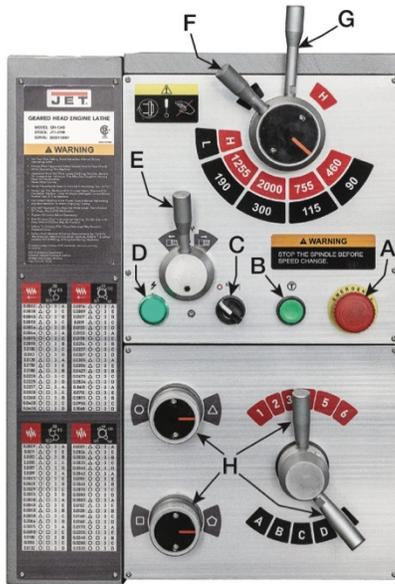

Figure 12-1
1. **Emergency Stop Switch** (A, Figure 12-1) - depress to stop all machine functions.
2. **Jog Switch** (B, Figure 12-1) - Depress and release to advance spindle momentarily.
3. **Coolant ON/OFF Switch** (C, Figure 12-1) - Turns coolant pump on and off.
4. **Power Indicator Light** (D, Figure 12-1) - Lit whenever lathe has power.
5. **Feed Direction Selector** (E, Figure 12-1) - Selects carriage travel direction when the chuck is rotating.
6. **RPM Speed Selector Lever** (F, Figure 12-1) - Use to select one of four spindle speeds in either high or low range (eight speeds total).
7. **High/Low Speed Selector Lever** (G, Figure 12-1) - Move to the left for low-speed range. Move to the right for high-speed range.
8. **Feed Rate/Thread Selector** (H, Figure 12-1) - Use knobs and handles to set desired feed or lead rates.